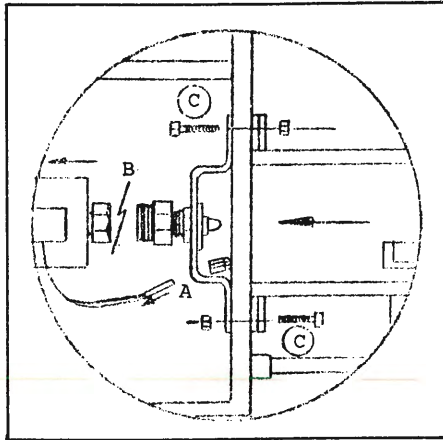

Figure 5-2
3. (See Figure 5-2.) Unplug wire (A) at the glo-bar. Disconnect 3-piece union (B) and slide control assembly back. Unscrew bolts (C) fastening the orifice bracket to the control box and pull out burner housing from tube.